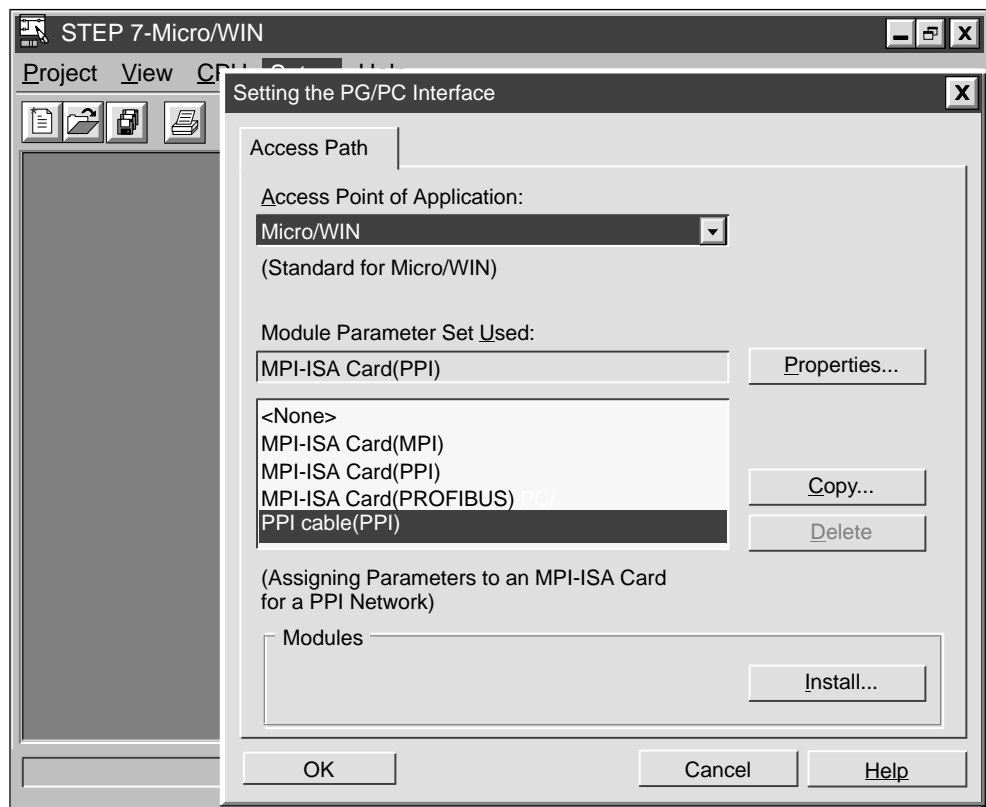

Figure 3-7 Setting the PG/PC Interface Dialog Box
When you are finished installing or removing hardware, click the "Close" button. This action returns you to the Setting the PG/PC Interface dialog box. The selections that you made appear now in the list box that contains the module parameter sets. See Figure 3-7.
After you have called up the Communications dialog box, click the “PG/PC Interface...” button. The Setting the PG/PC Interface dialog box appears. See Figure 3-7.
When you have reached the Setting the PG/PC Interface dialog box (see Figure 3-7), you must select "Micro/WIN" in the Access Point of Application list box in the Access Path tab. This dialog box is common to several different applications, such as STEP 7 and WinCC, so you must tell the program the application for which you are setting parameters.
1. In the Setting the PG/PC Interface dialog box (see Figure 3-7), select "Micro/WIN" in the Access Point of Application list box in the Access Path tab.